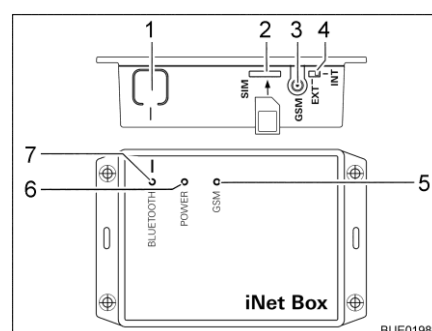

Fig. 76 Truma iNet-Box
- Press the BLUETOOTH button (Fig. 76,1) on the iNet-Box for 1 second. The Truma iNet-Box will be visible in the mobile terminal for approx. 2 minutes (name: "Truma iNet-Box"). During this period, the blue BLUETOOTH LED (Fig. 76,7) will be flashing.
- Carefully insert the mini SIM card with own telephone number and sufficient credit into the slot (Fig. 76,2) of the Truma iNet-Box as shown until it engages. The red GSM LED (Fig. 76,5) must be flashing continuously. If the red LED goes out after 20 seconds: Check mini SIM card.